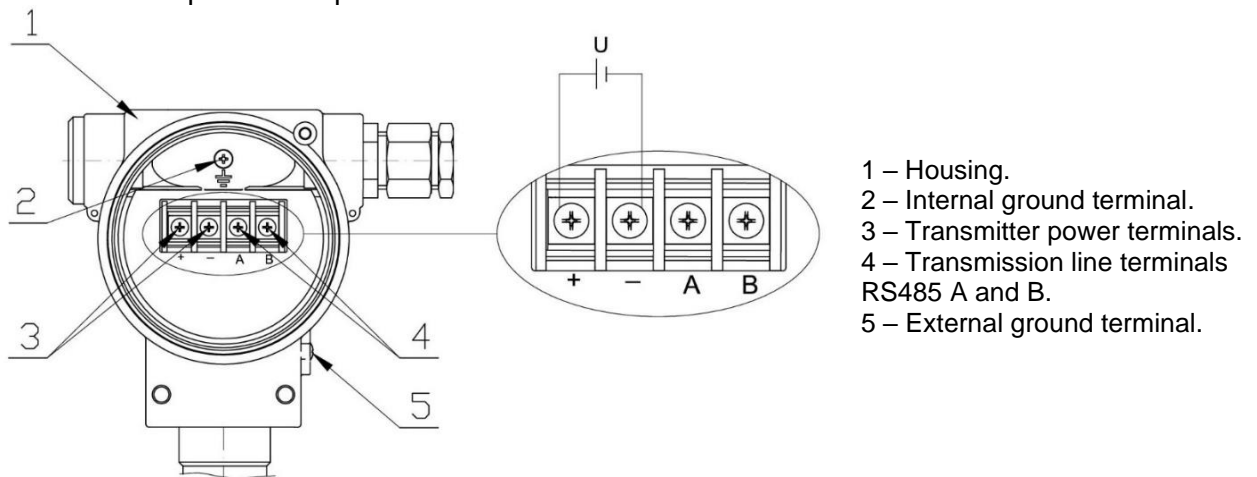

Figure 3. Electrical connection to transmitter
- connect the transmitter according to the → Figure 3. paying attention to the polarity of the cables and their corresponding connectors and the correct tightening of the bolts fixing the conductor core to the terminal;